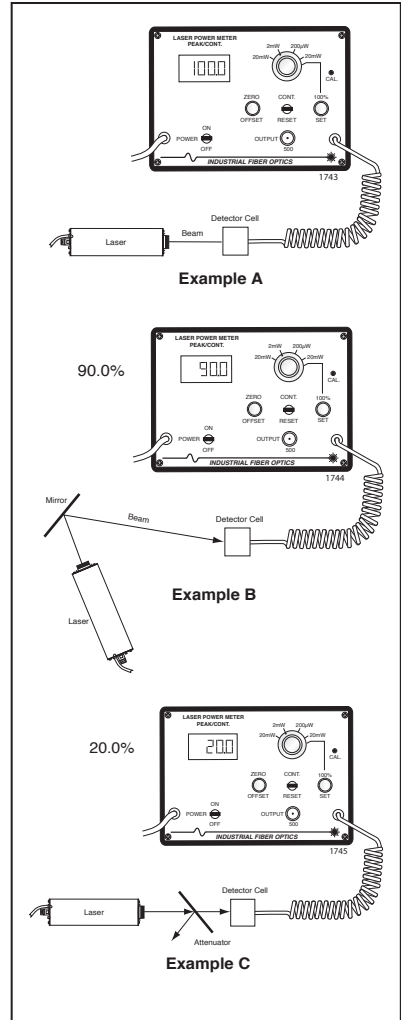

Figure 3.
3. Illuminate the detector cell aperture with the beam power previously measured from .5 mW to 1.5 mW. Rotate the SET 100% knob again to obtain a 100.0 reading. Refer to Example A in Figure 3.
4. Aim the beam onto the measured object (mirror or attenuator) and measure the transmitted power of this beam. The LCD display will show the coefficient of the transmission in percentage. Refer to Examples B and C in Figure 3.